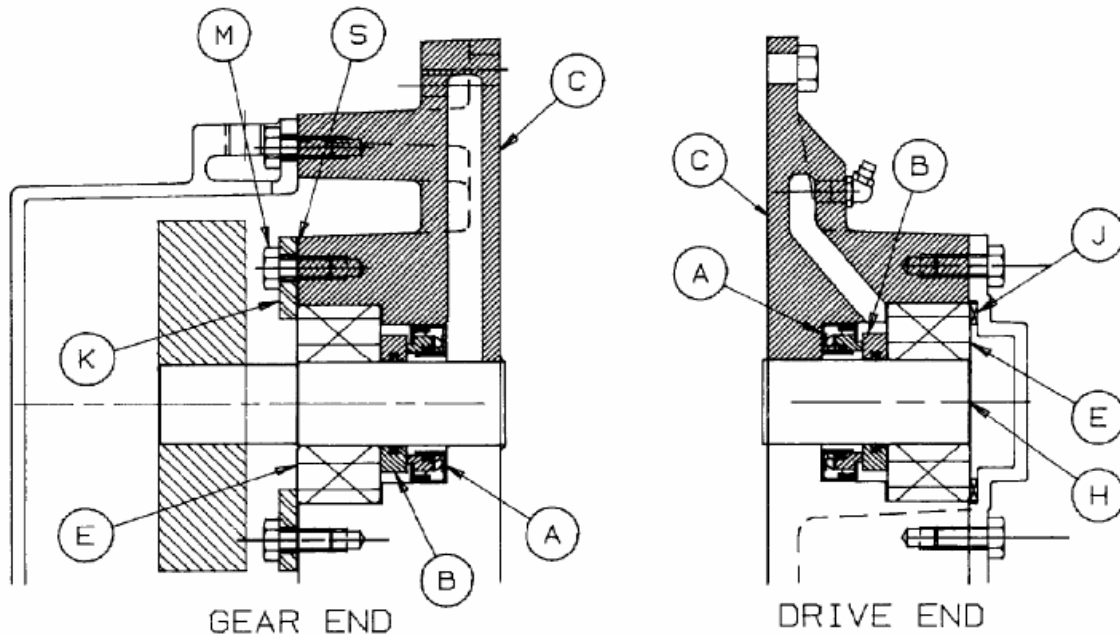

FIGURE 7-1
- B. Refer to Figure 7-1. Install mechanical seal (A) into the headplate bore (C) using a press and the correct driver shown on page 24. Drive the seal securely on to its seat.
- A. Refer to Figure 7-1, page 28. Lightly coat the impeller shaft (H) and the inside diameter of the mating ring (B) with assembly lubricant.
- B. Install the mating ring (B) on the shaft only far enough to get the bearing (E) started on the shaft.
Refer to FIGURE 7-1, page 28. The gear end bearings are held in position by the force created by the wavy spring (J) on the drive end and the bearing retainer (K) on the gear end. This is referred to as the fixed end. The interference fit between the shaft (H) and the bearing inner race (E) keeps the shaft from moving axially.